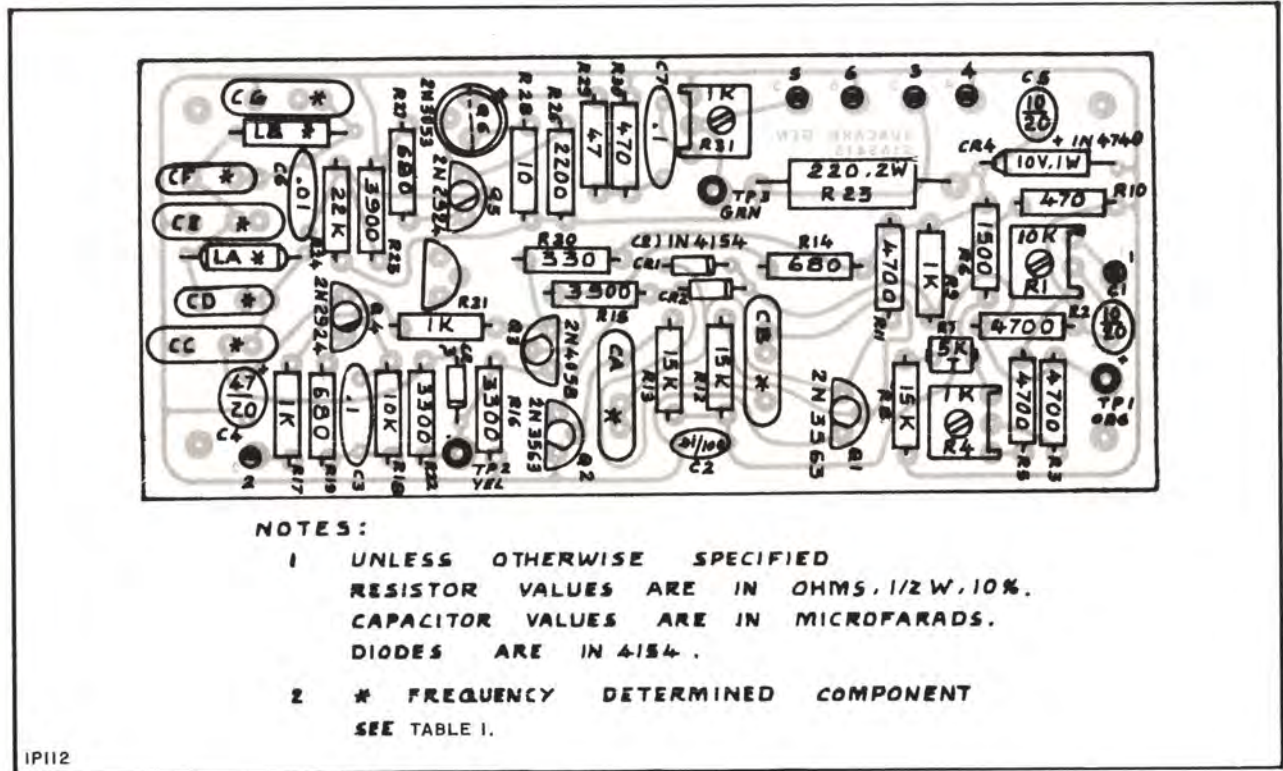

Figure 26. SU and TU Subcarrier Generator, Parts Location
- PARTS LOCATION—SEE FIGURE 26.